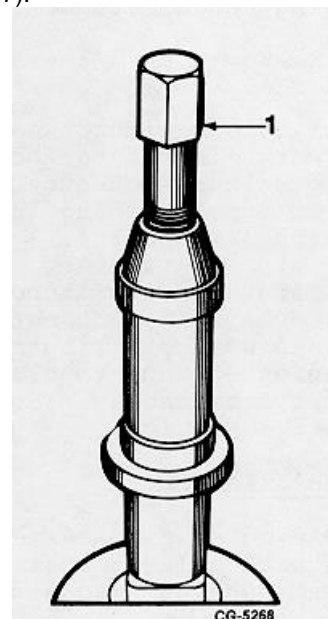

Fig. 27. Bushing Remover SE-1955-5
5. Install bushing remover SE-1955-5 in lower bushing (Figure 27).